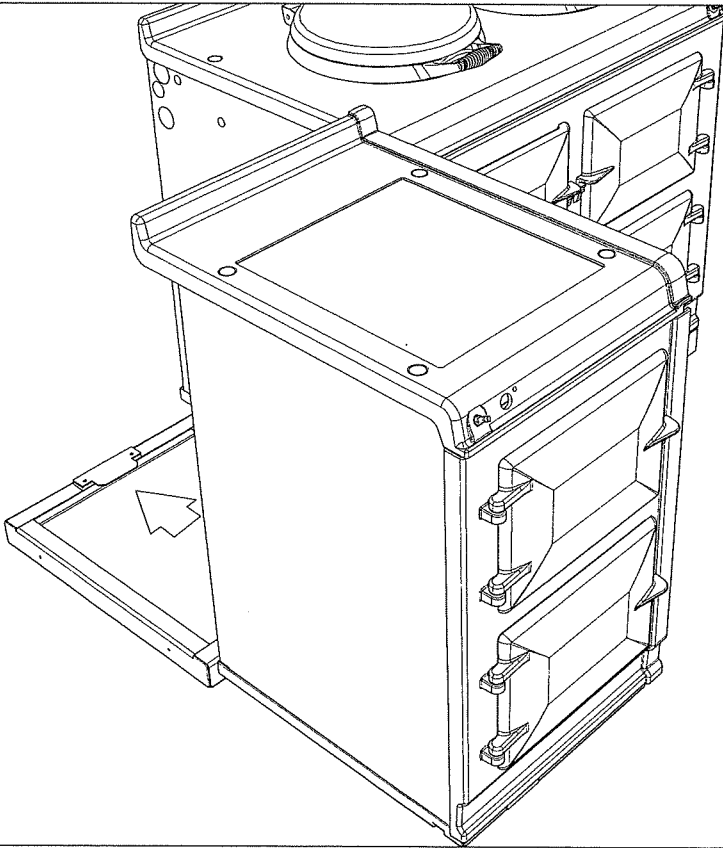

Fig. 3.7
6. Slide hotcupboard onto plinth until rear tongue bracket engages fully into rear of base slot, (**Fig. 3.7**). Ensure the appliance is aligned squarely with the plinth then proceed to engage the front tongue bracket into the slot on the underside of the base plate. Once satisfied that the front tongue bracket is engaged fully lock it into place by tightening the two M6 screws fully.